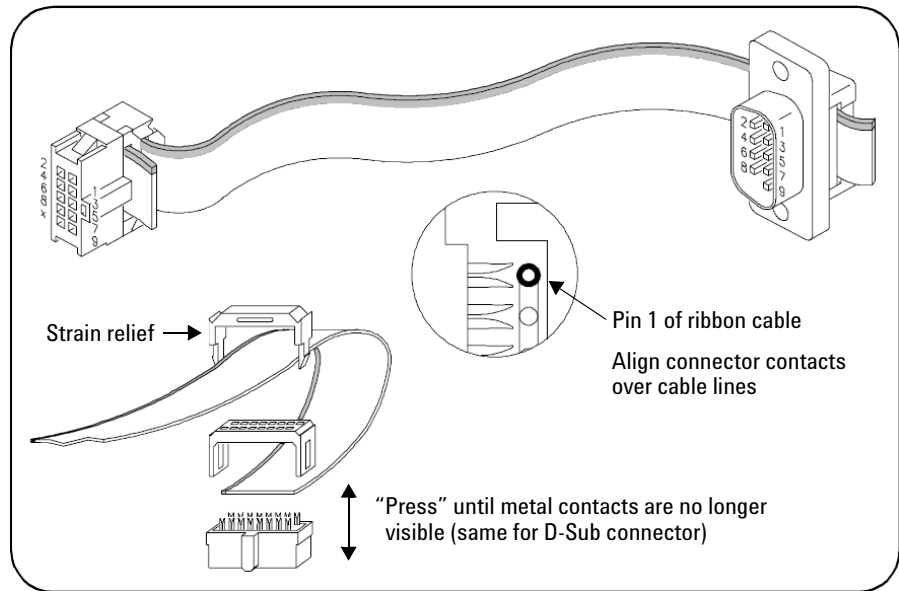

Figure B-2 Y1157A connector orientation and ribbon cable routing
- 2 Position the D-Sub connector and the ribbon cable connector as shown in **Figure B-2**. Route the cable **through** the connectors, noting the location of cable pin 1. By convention, pin 1 is indicated in red (the dark line in the drawing).
- 3 Move the connectors to the ends of the cable, allowing for some overlap on the D-Sub connector end and strain relief on the ribbon cable connector end. **Note the orientation of the connectors and cable in Figure B-2.**
- 4 Align the metal contacts of the ribbon connector over cable pin 1 (Figure B-2) and the other pins, press the ribbon cable connector onto the cable using a vise or clamp to press the contacts **evenly** through the cable insulation. Continue to press the connector until the metal contacts are no longer visible.
- 5 Fasten the strain relief clamp over the cable and into the ribbon cable connector as shown in Figure B-2. Remove any excess cable after the clamp is in place.